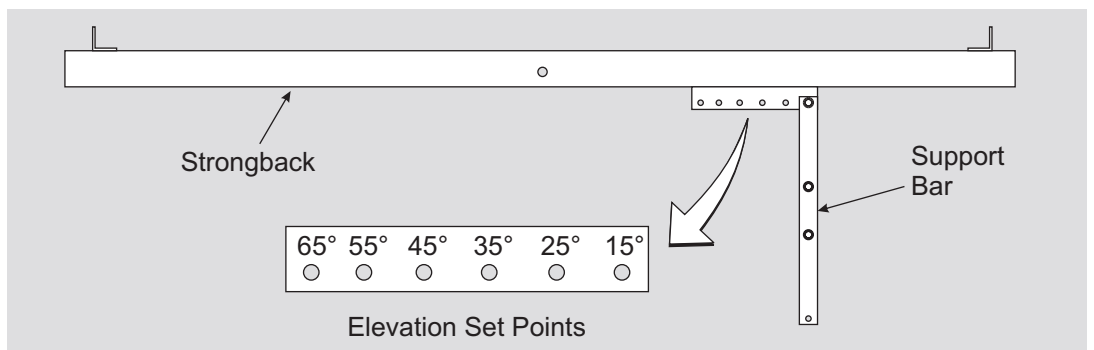

Figure 7-2: Setting the Tilt Angle
- B. Tilt the rack to the desired elevation angle (15°, 25°, 35°, 45°, 55°, or 65°) and re-attach the Support Bar to the Strongback placing the 3/8” hardware in the appropriate hole matching the desired elevation. **Torque at 32-34 ft.-lbs.** (See Figure 7-2)